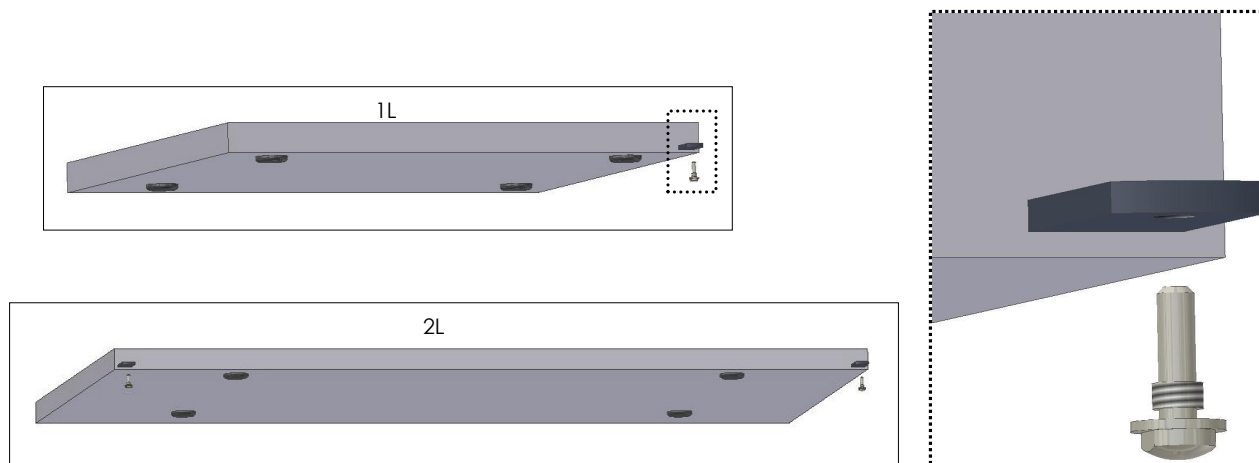

Fig. 1
- Insert the **inferior stud-pins** in the fixing support of the door (Fig.1);